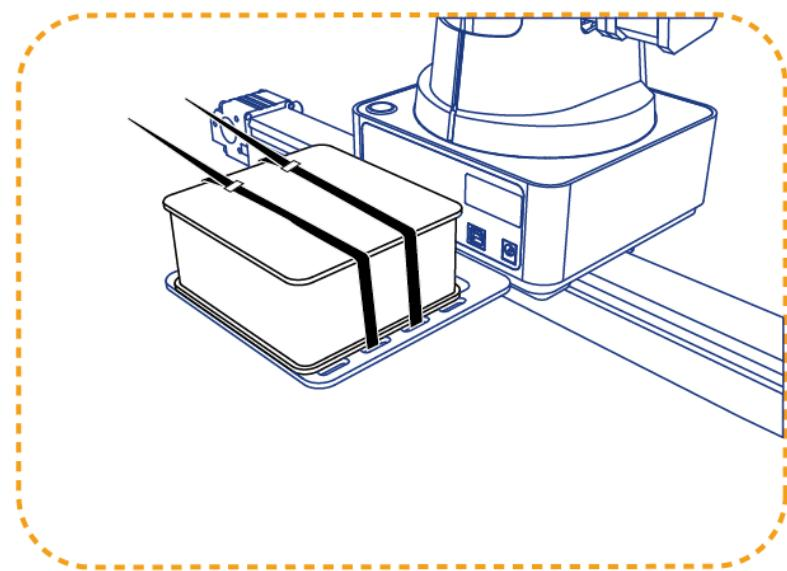

Figure 5.191 Fix air pump
2. Fix the air pump on the plate **c**, as shown in Figure 5.191. And connect the air pump to Dobot Magician. For details, please see *5.2.1 Installing a Suction Cup Kit*.